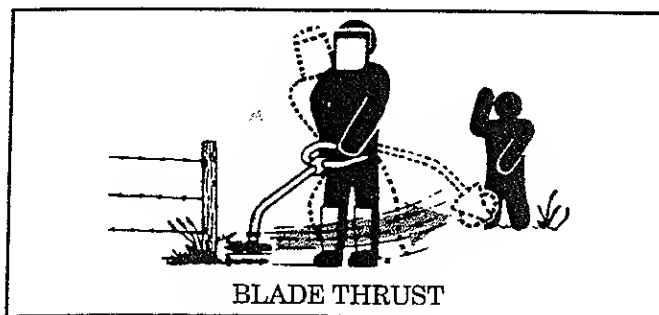

Figure 23
**WHAT CAUSES BLADE THRUST** *Blade Thrust* can occur when the spinning blade contacts an object that it cannot cut. This contact causes the blade to stop for an instant and then suddenly move or "thrust" away from the object that was hit. The "thrusting" reaction can be violent enough to cause the operator to be propelled in any direction and lose control of the tool. The uncontrolled tool can cause serious injury if the blade contacts the operator or others. Figure 23.